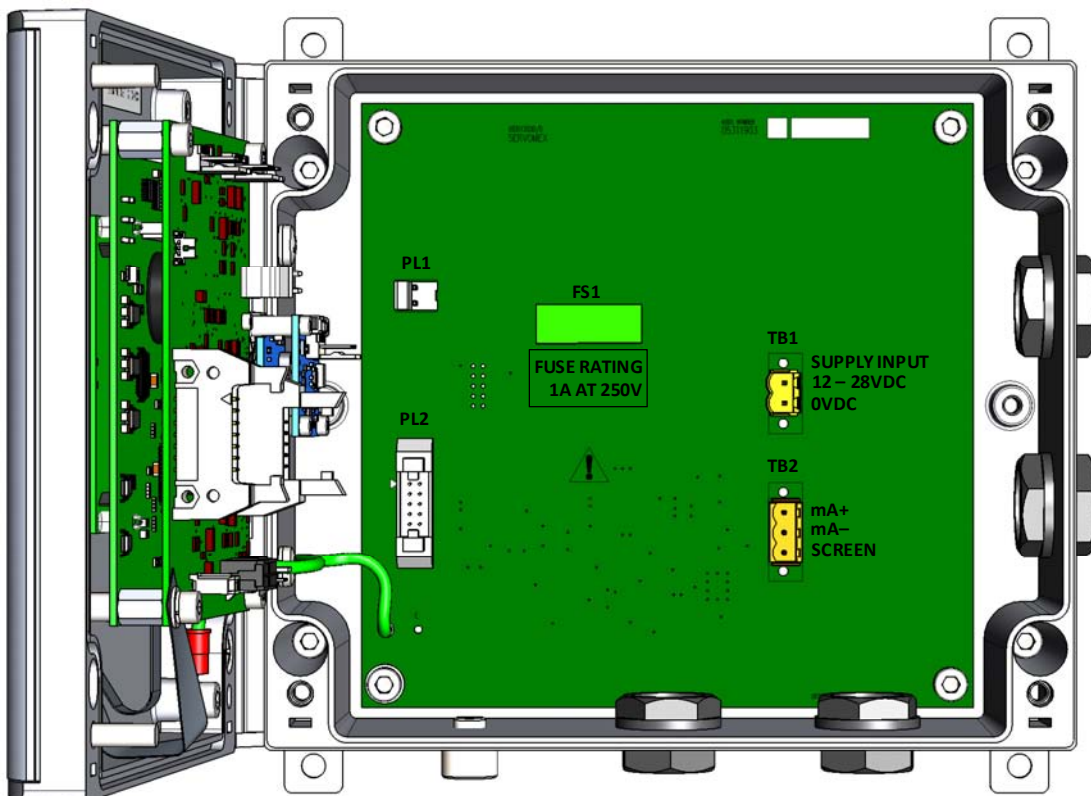

Figure 8 – Electrical Connections
1. Connect the wires in your cable to the screw terminals on TB1 see Figure 8.
1. Connect the wires in your cable to the screw terminals on TB2 see Figure 8.